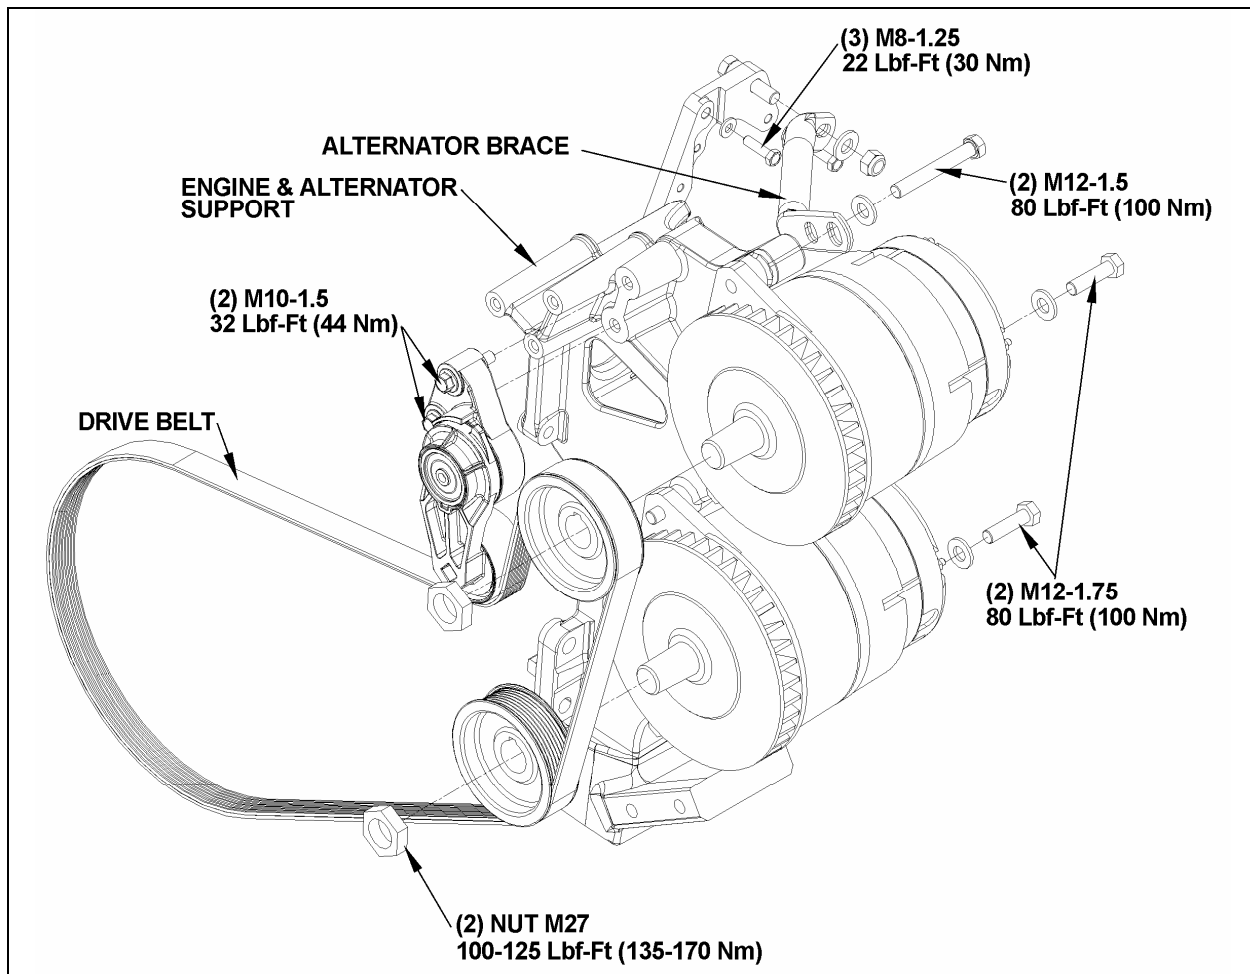

FIGURE 21: BOSCH ALTERNATORS MOUNTING TORQUES (VOLVO D13)
If the alternators needed to be removed, reinstall as follows. Refer to figures 21 and 22 for installation and tightening specifications:
1. If not already done, mount the alternator brace to the engine and alternator support (figure 21);
2. Bolt the alternators to the bracket using one 3.5 inch bolt at the top and two 1¾ inch bolts at the lower mounting bosses (fig. 21);